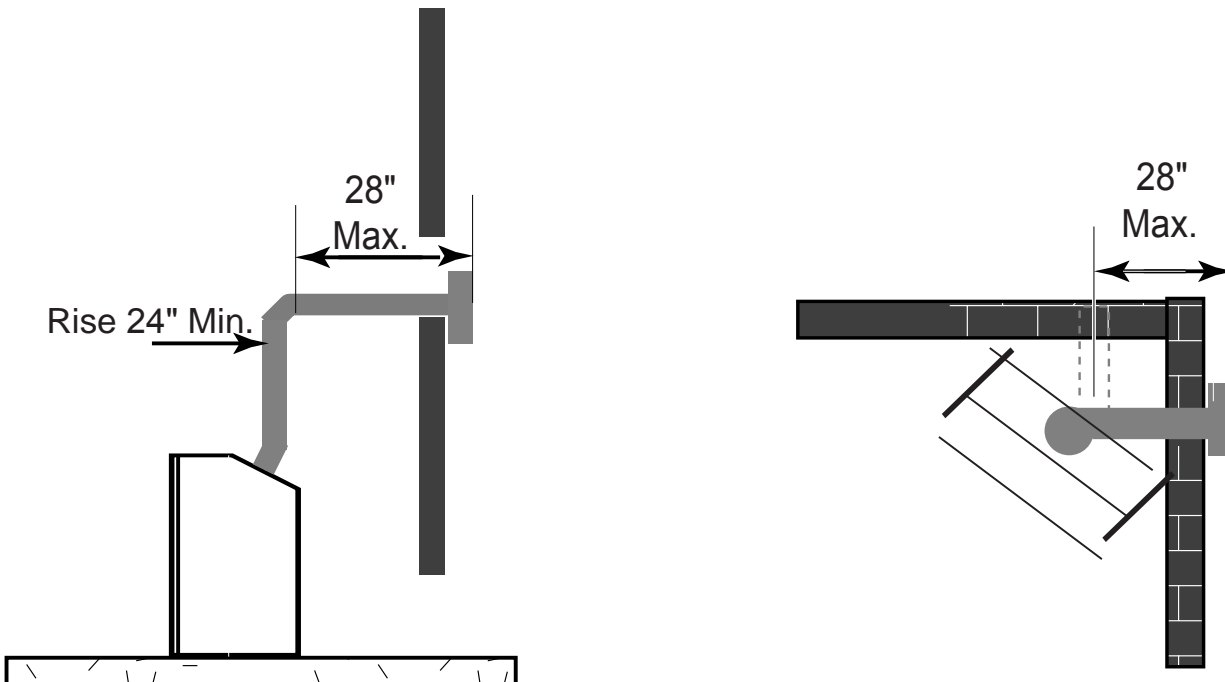

Figure 19 - Maximum Horizontal Run with 2 feet Rise
- If a 90° elbow is used in the horizontal vent run (level height maintained) the horizontal vent length is reduced by 36" (914 mm) (Fig. 21 A and B) This does not apply if the 90° elbows are used to increase or redirect a vertical rise. See Figure 19.